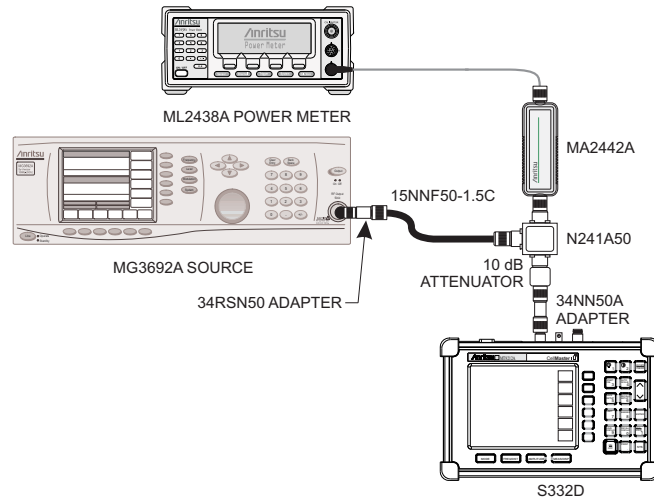

Figure 5. Power Meter Verification Setup
18. Using the power splitter, coaxial cable and adapters, connect the Spectrum Master to the signal source and the power sensor as shown in Figure 5.